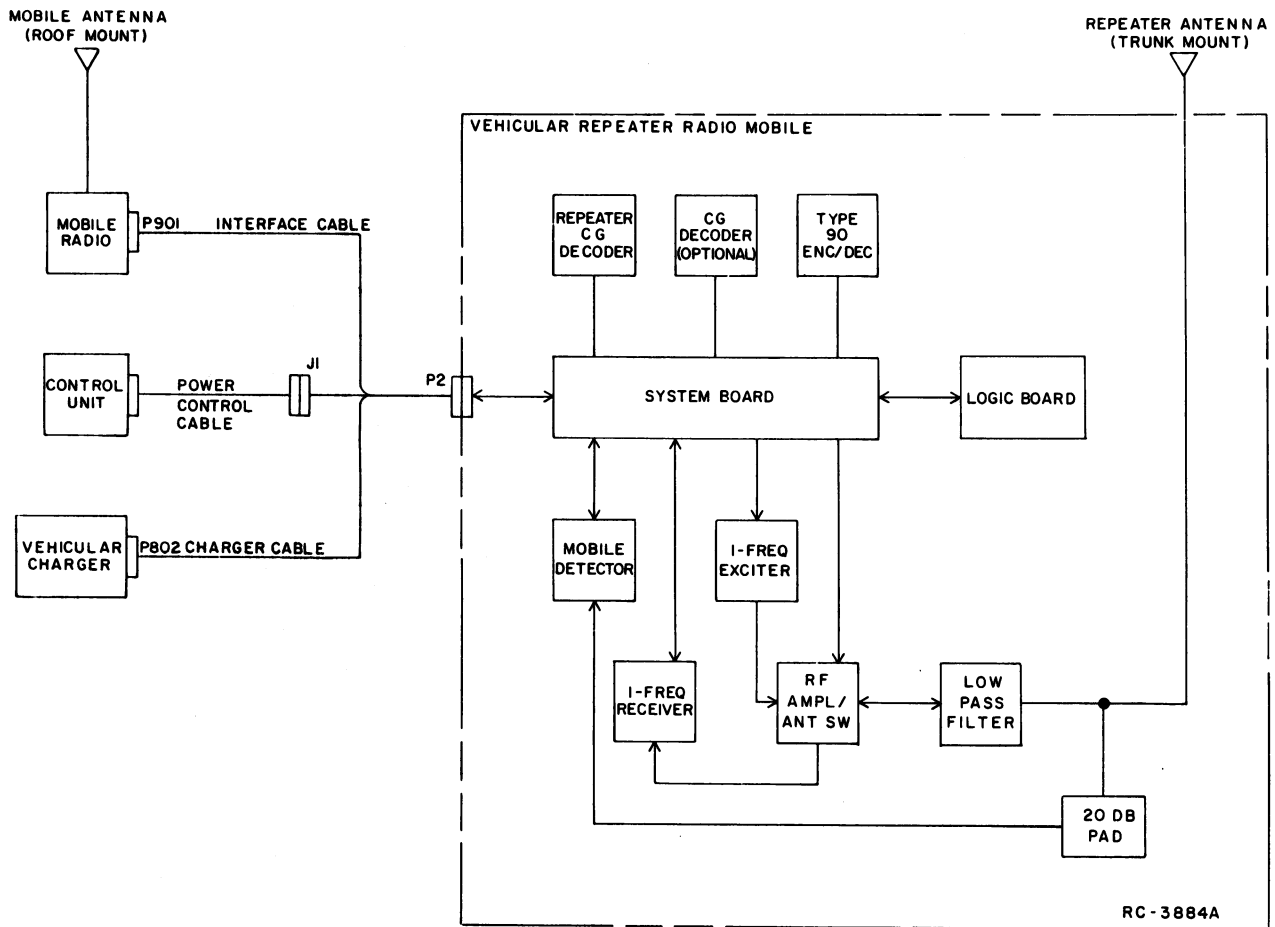

Figure 2 - Vehicular Repeater System Block Diagram
The Vehicular Repeater System consists of the MASTR Executive II Vehicular Repeater Radio, a Mobile Radio, Control Unit, a MASTR Personal Series (PE) Portable Radio Unit with its associated Vehicular Charger Unit and associated power/control cables (See Figure 2). The Vehicular Repeater System retransmits portable-to-base and base-to-portable transmissions to an operator, using the PE radio, away from his vehicle.